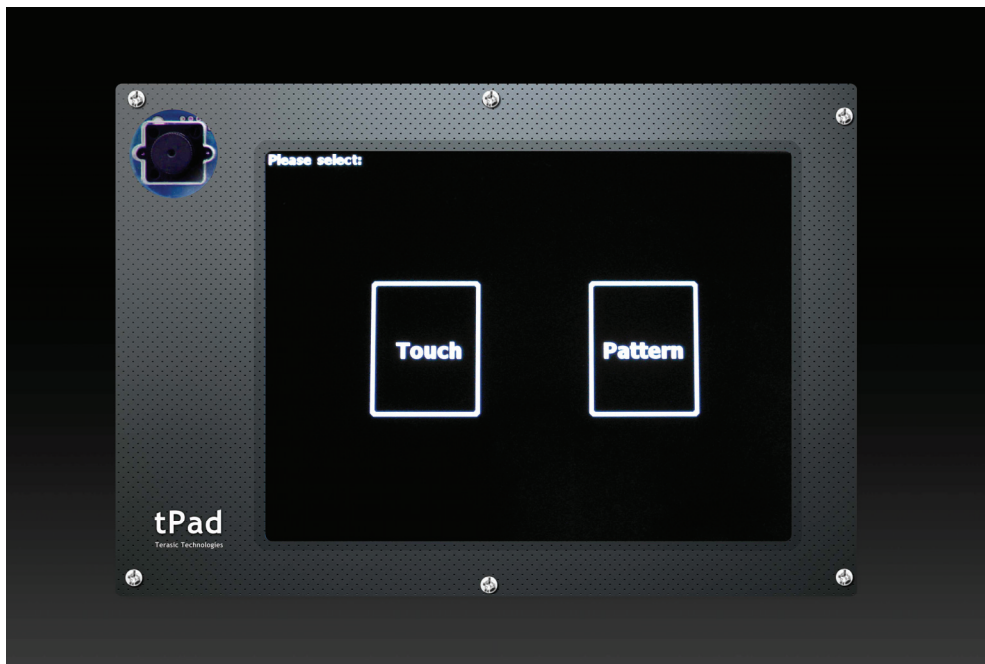
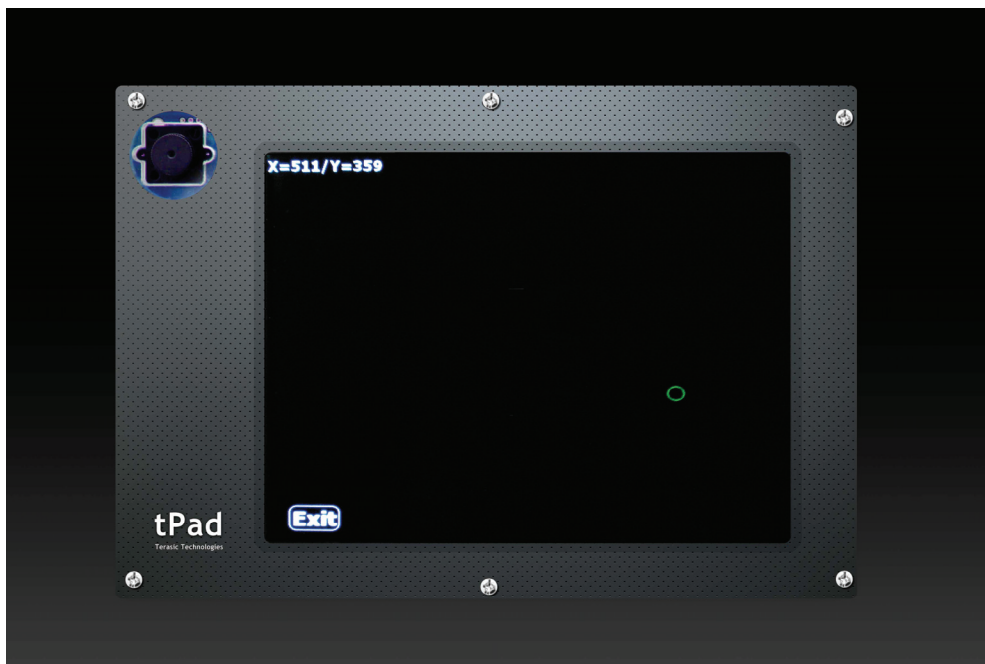
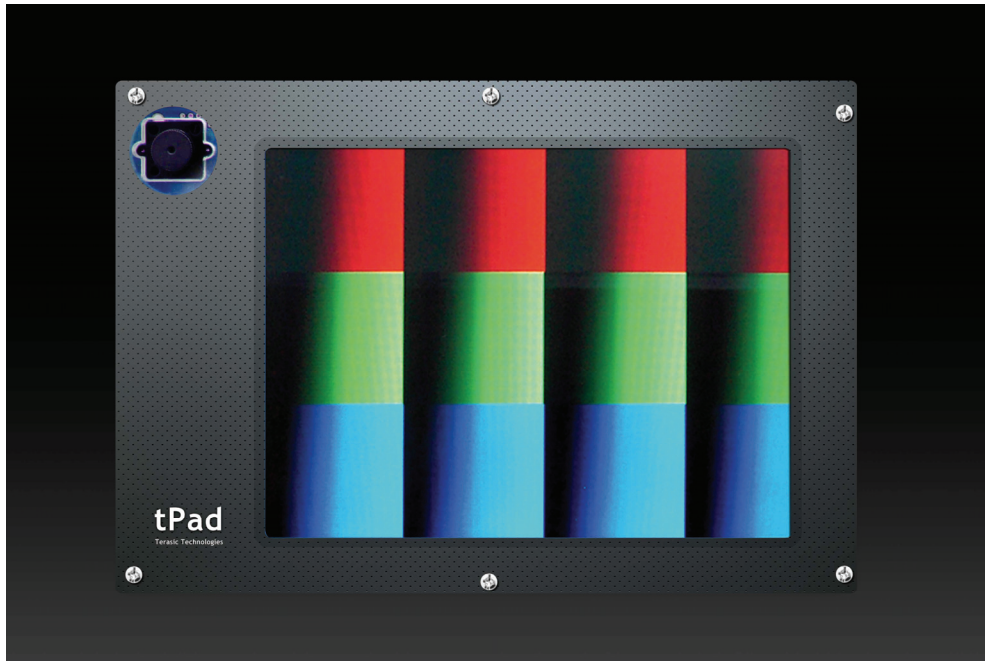

Figure 4-4 Main interface of the tPad Starter demonstration
Figure 4-5 The tPad Starter Touch sub item
Figure 4-6 The tPad Starter Pattern sub item
- From on the touch panel, tap any icon of the main interface and start the experience, as shown in Figure 4-4, Figure 4-5 and Figure 4-6